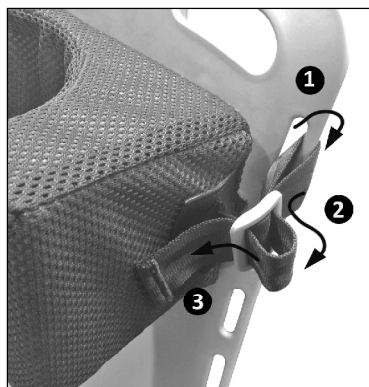

Figure 20
2. Thread the strap into the appropriate slot on the back support following the diagram in Fig. 20.